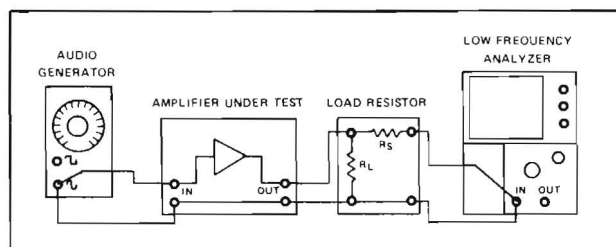

Figure 9 Equipment Setup for Measuring Power
2. Connect the equipment as shown in Figure 9. Set all amplifier controls to their flat positions and set the volume control to maximum.
- 1. This test is usually conducted when the power output of an amplifier is measured. The equipment setup is shown in Figure 9. Set the amplifier controls for a flat response and maximum volume.